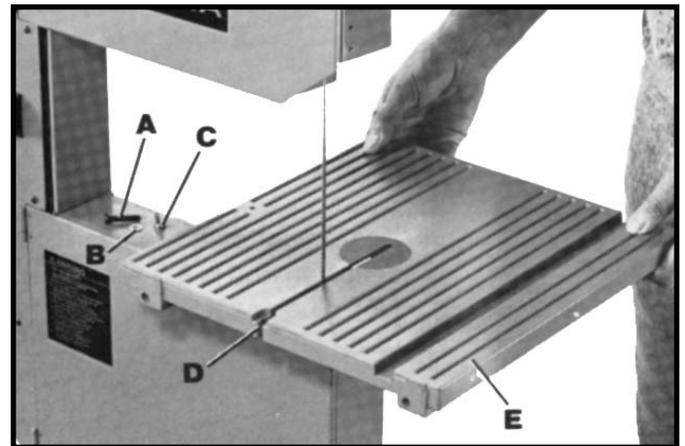

Fig. 8
1. Remove the screw (A) Fig. 8, flat washer (B) and wing nut (C) from slotted end (D) of table and slide table (E) into position on band saw as shown.